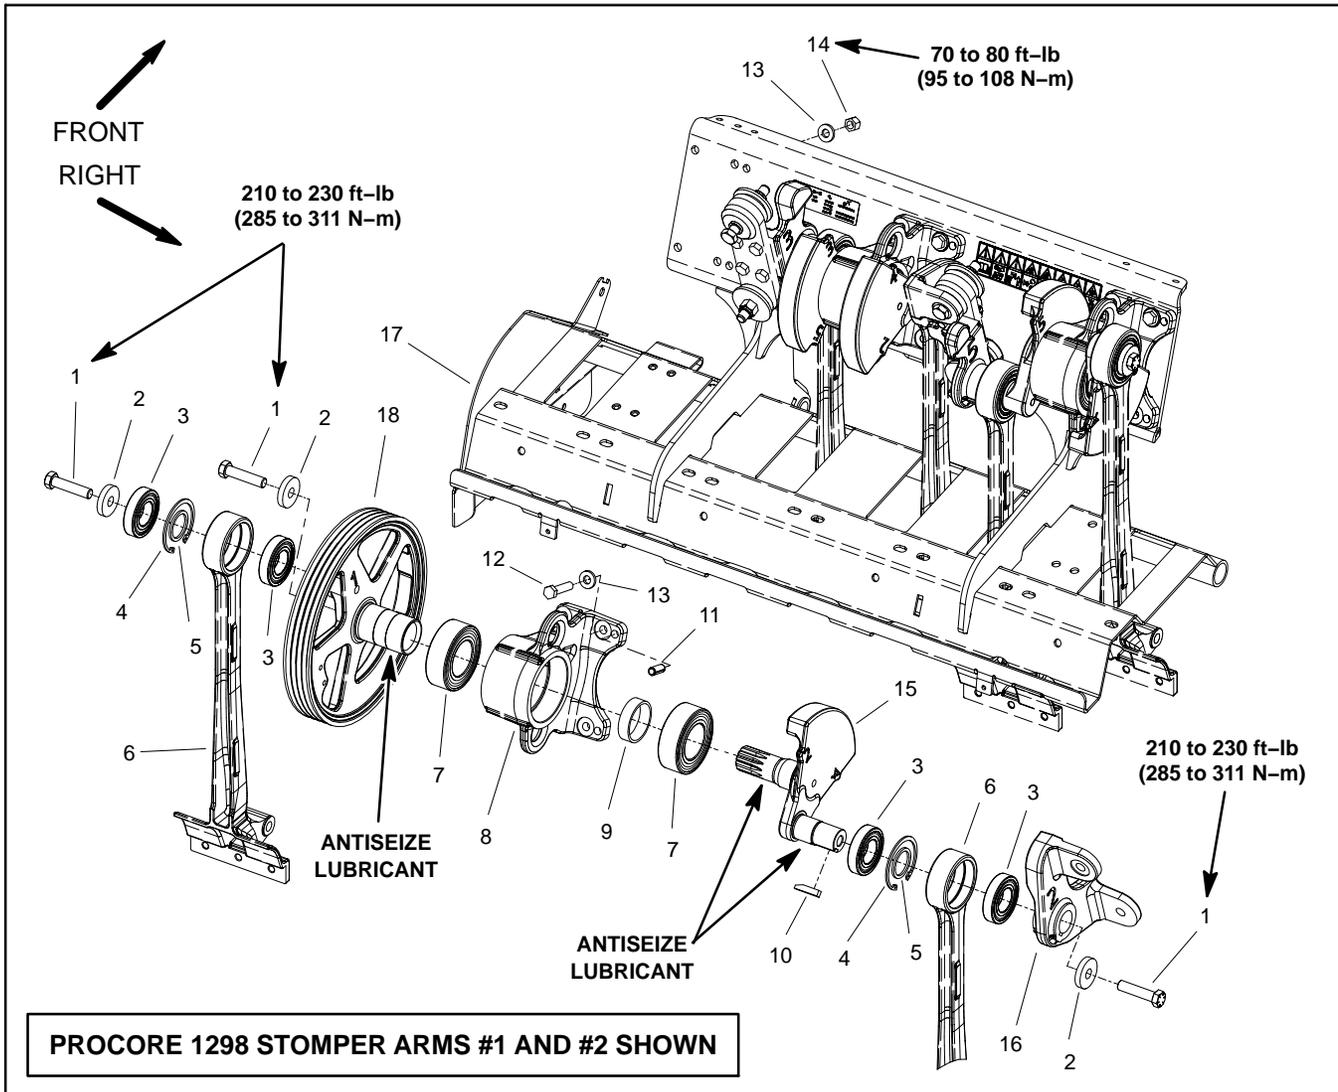
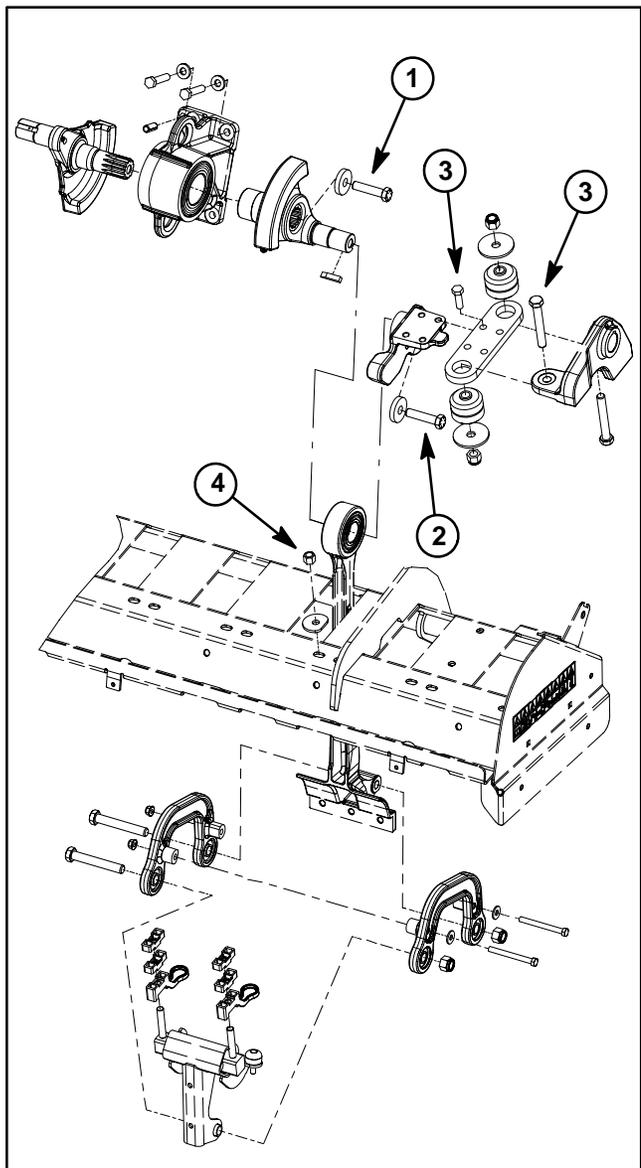

Figure 17
Figure 21
Removal (Fig. 17)
Installation (Fig. 17)
10. Once all stomper arm and crankarm components have been installed, fully tighten fasteners in the following order (Fig. 21). Tighten fasteners to the torque specifications identified in Figures 17 and 20: